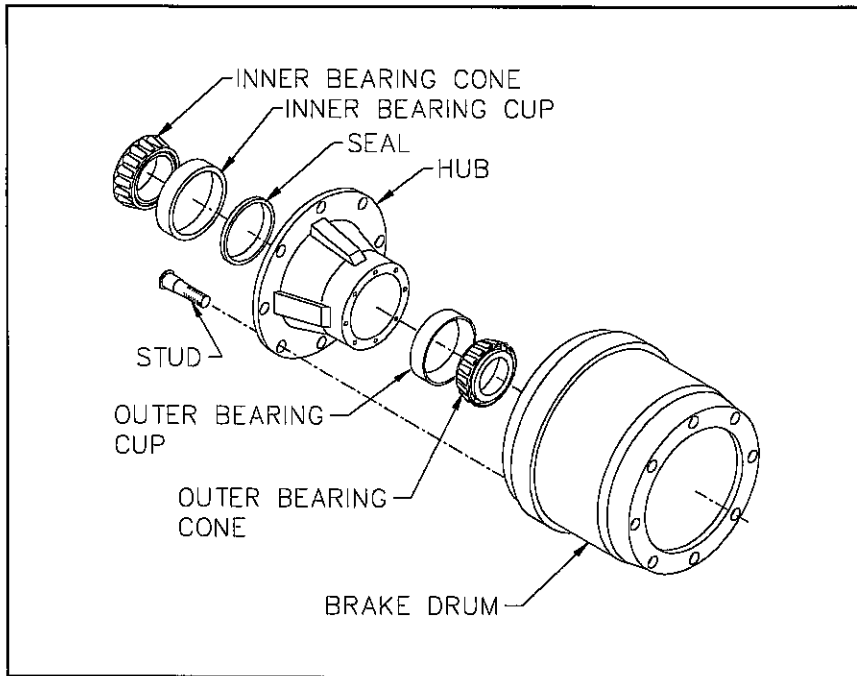
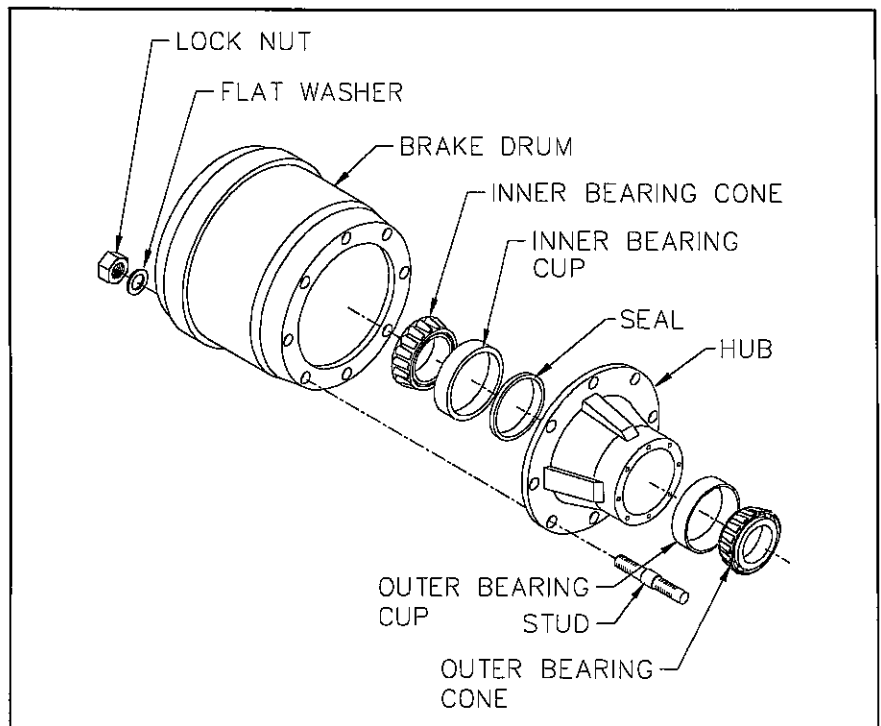
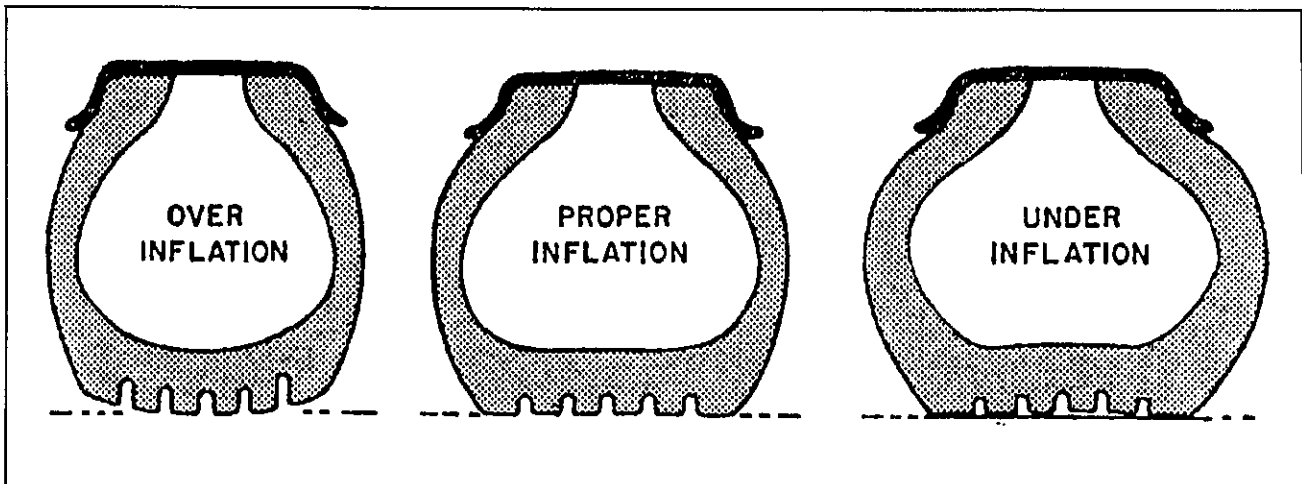

Figure 4-13 Outboard Mount Hub and Drum
Figure 4-14 Inboard Mount Hub and Drum
Fig. 4-15 Tire Inflation Examples
4-10.4 Replace the hub and drum as follows (see **Figure 4-14, 4-15 and 4-13**):
- a. For outboard mount hub and drum remove the brake drum (see **Figure 4-14**). It may be necessary to release the slack adjuster. For inboard mount (see **Figure 4-15**) and spoke wheel (see **Figure 4-13**) remove drum after hub.
s. For Outboard Mounted Brake Drum (see **Figure 4-14**) place the drum over the hub and brake shoes being careful not to damage the threads on the studs. Make sure the drum seats flat against the hub flange and mates properly with the hub pilot. There should be no interference between the brake drum pilot chamfer and the corner radius on the hub. If interference exists, the hub will not be able to function properly.